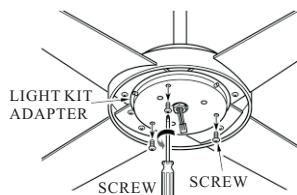

FIG.13
1. Remove the 3 screws from the light kit adapter. (see fig 13)